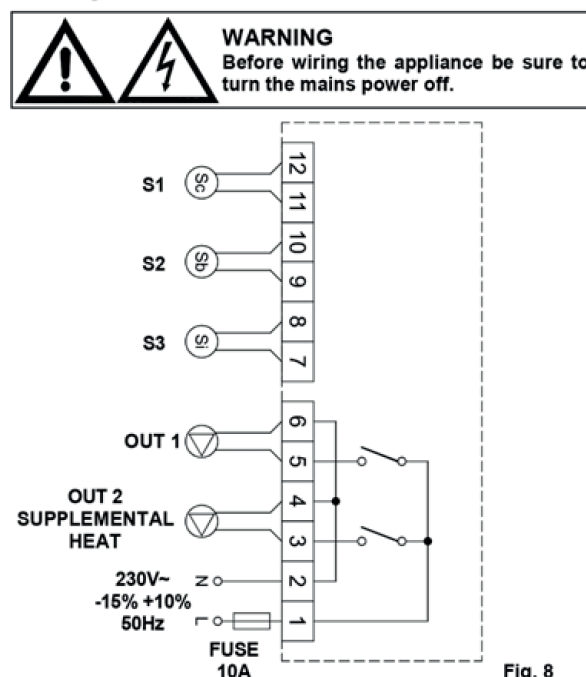

Fig. 8
- 6 - Connect the thermostat base to the wall plate (pass the wires through the rectangular openings). Align the base holes with the special wall plate teeth, then press the base to the left until the plate's plastic teeth click (Fig. 8).